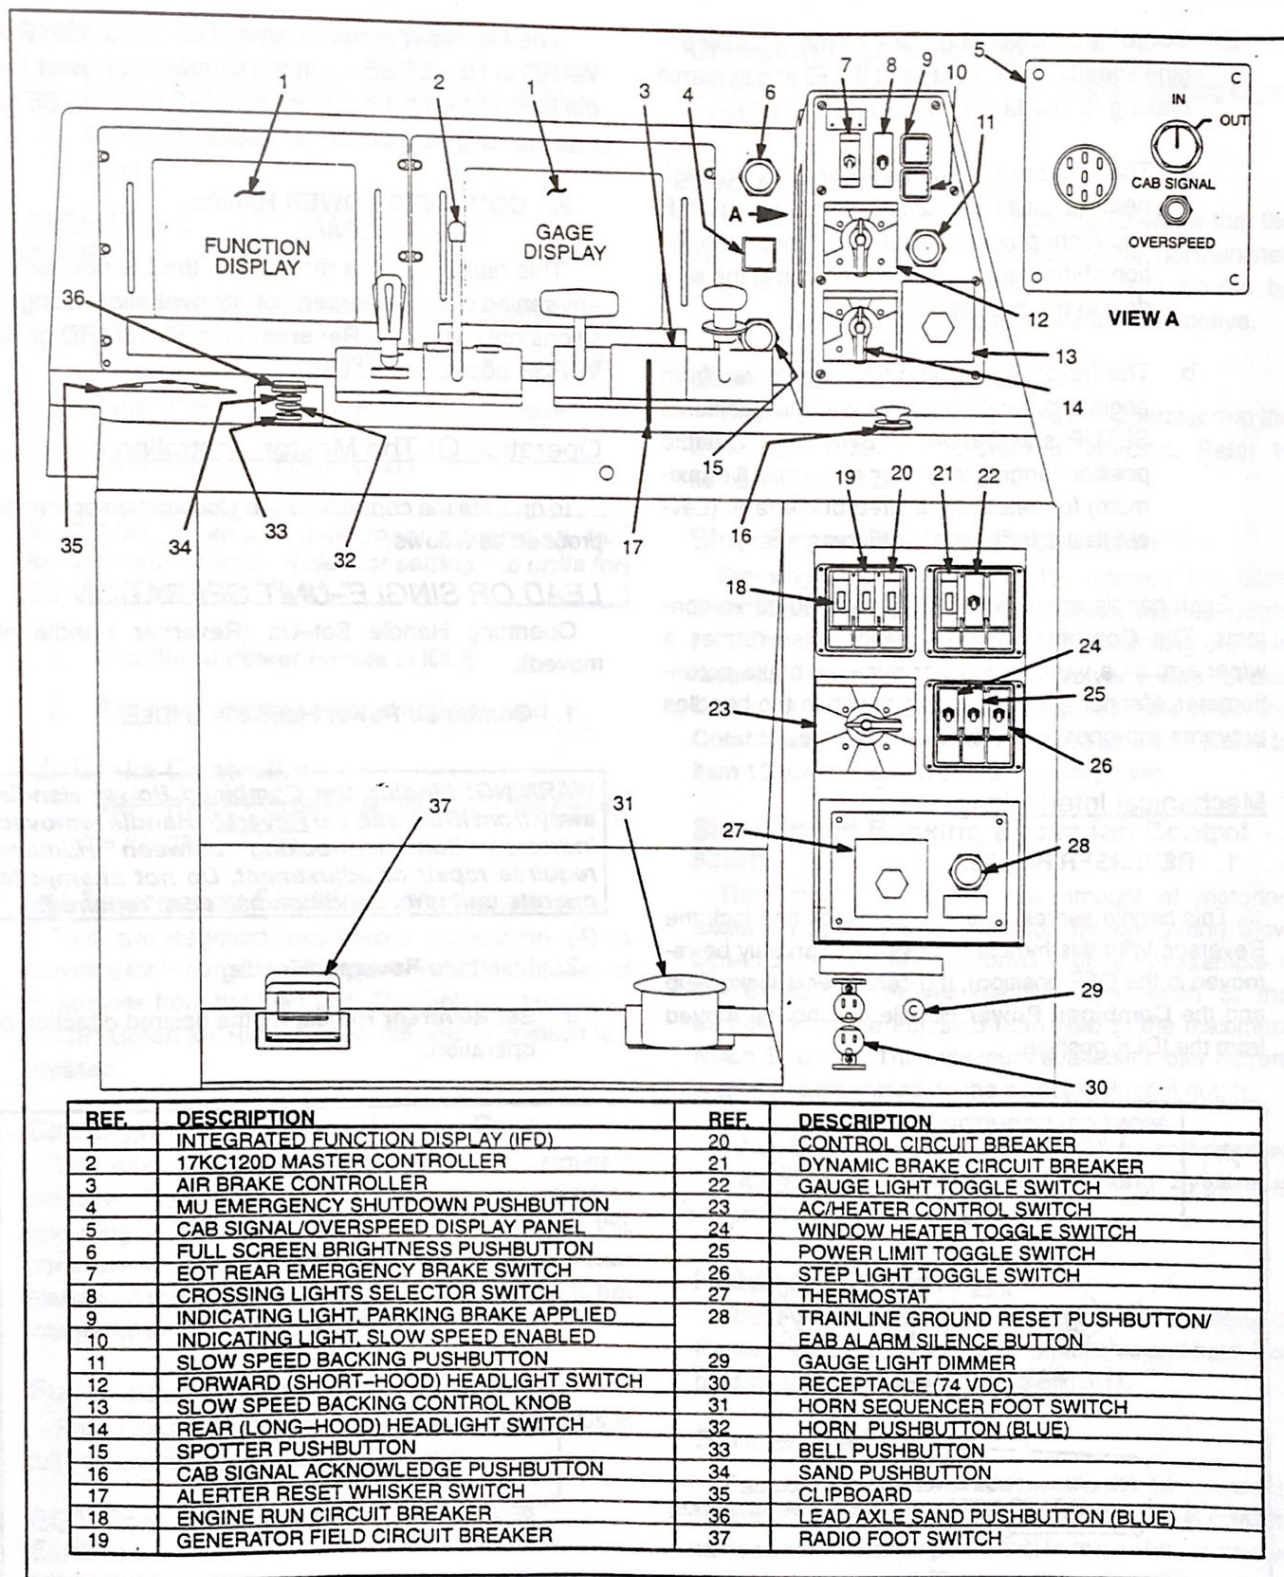

FIG. 5. CONTROL CONSOLE RIGHT (ENGINEER'S POSITION). E-42564.
All devices, manual and visual, required by the engineer to set-up and operate the locomotive are located near the engineer's position. Most of the devices are located on the Control Consoles (Figs. 5 and 7) and the Engine Control panel (Fig. 12).
This screen (Item 1, Fig. 5) replaces the former analog speedometer, ammeter, air and pressure gauges mounted on the control console. The Operation Screen also replaces the functional controls and displays of the bolt-on boxes covering End Of Train, Alerter and Cab Signal Systems. The screen will show both analog and digital readouts of Speed, Load and air pressure data. The air pressure data covers Main Reservoir, Equalizing Reservoir, Brake Pipe, Brake Cylinder, End of Train and Brake-Pipe Reduction. Digital readouts of fuel remaining, cruise set speed and HEP volts/amps are centrally located.
**NOTE:** Numbers in parentheses ( ) refer to items found on Figure 5 of this publication unless noted otherwise.
Two IFDs (1) are located on the Control Console Right (Fig. 5). One is used to monitor locomotive performance and perform diagnostic testing, while the other replaces the former analog gauges.